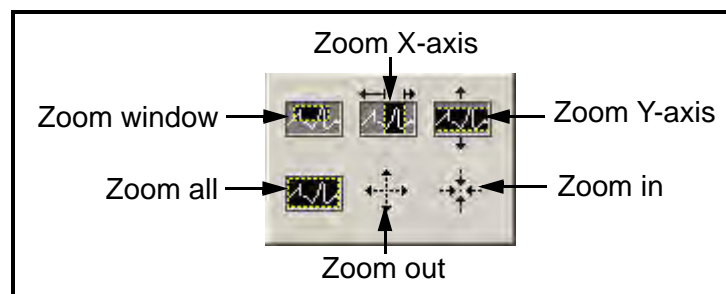

Figure 70: Zoom Tool
- Zoom Tool - gives you six options as shown in Figure 70.